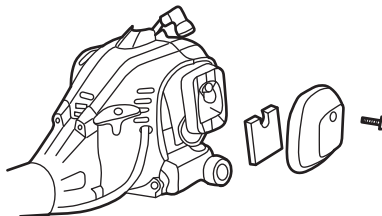

Fig. 29
2. Open the air filter case (A5) with the cross-head screwdriver (E1, E2), and remove the filter. (See Fig. 29)